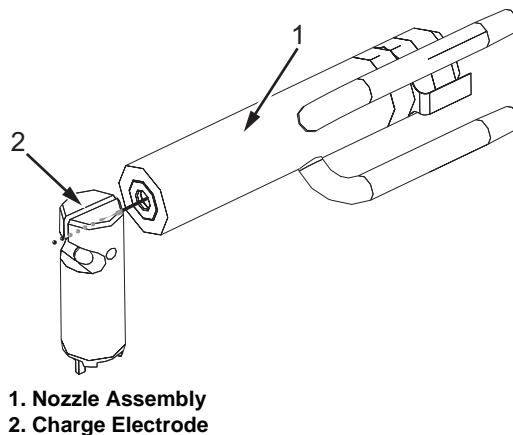

Figure 3-52: Charge Electrode
- 11 The charge electrode (item 2 in Figure 3-52) is positioned at the break up point of the ink stream and extends for several drops either side of it.